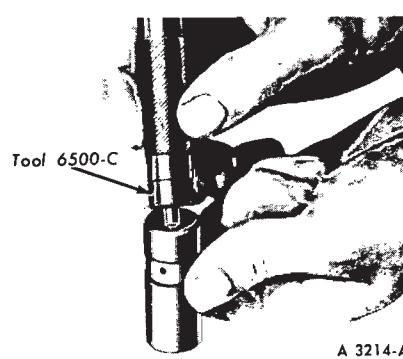

FIG. 33—Installing Valve Lifter Lock Ring
6. Push the plunger and push rod cup into the body and install the lock ring (Fig. 33). Release the plunger; then depress it again to fully seat the lock ring.